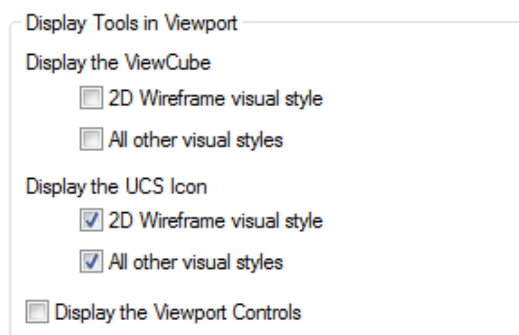

Figure Step 39
Step 39 In the Display Tools in Viewport area, set it as shown in the figure. (Figure Step 39)